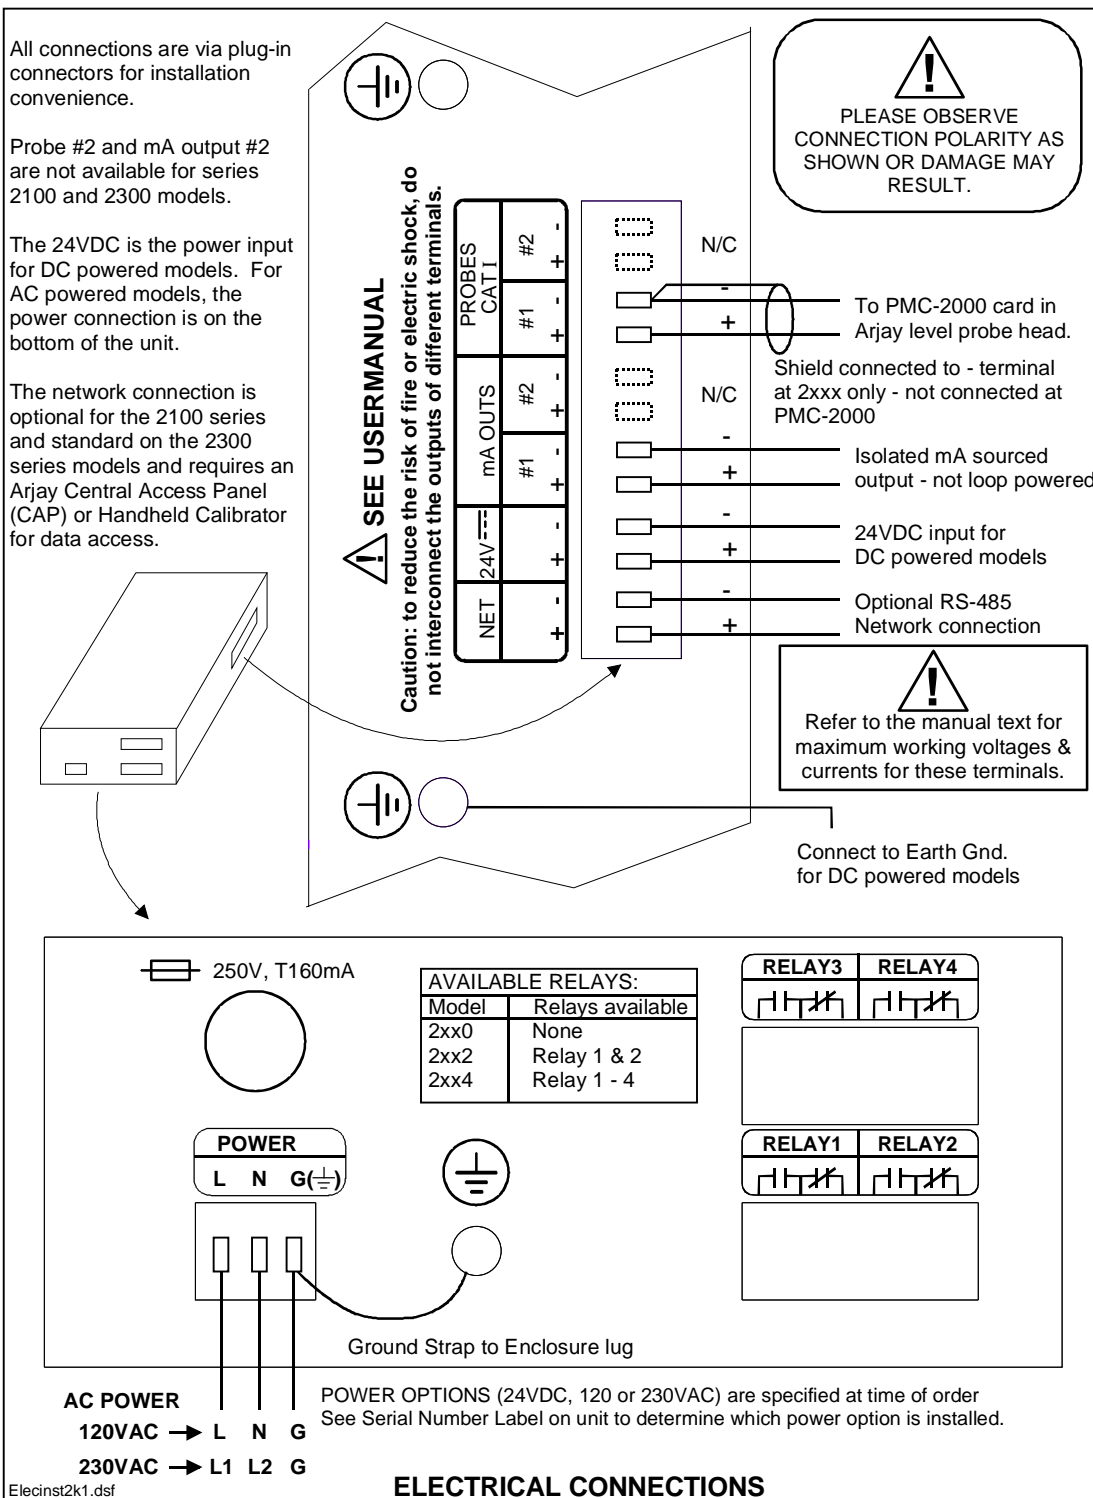

Figure 2.2
- 6) Wiring diagram for permanent connection: See Figure 2.2